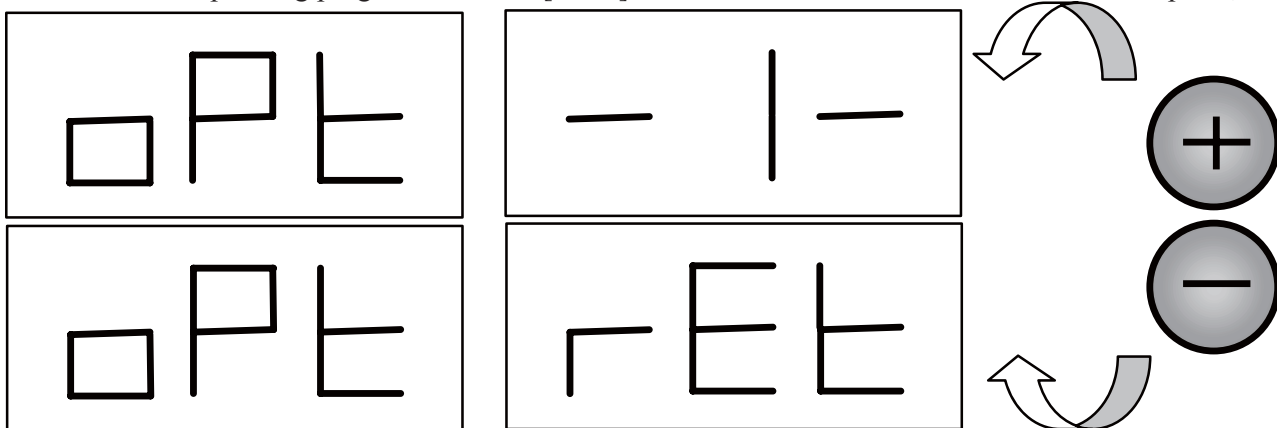

Fig. F5.1 Access to the Optimisation programme
1. Press [F+P4]  + . The display will show the options shown in figure F5.1. Press [P4]  or [P5]  and choose the option `Opt-1-` to continue, or the option `Opt Ret` to return to the operating programme. Press [F+P4]  +  to confirm the chosen option;